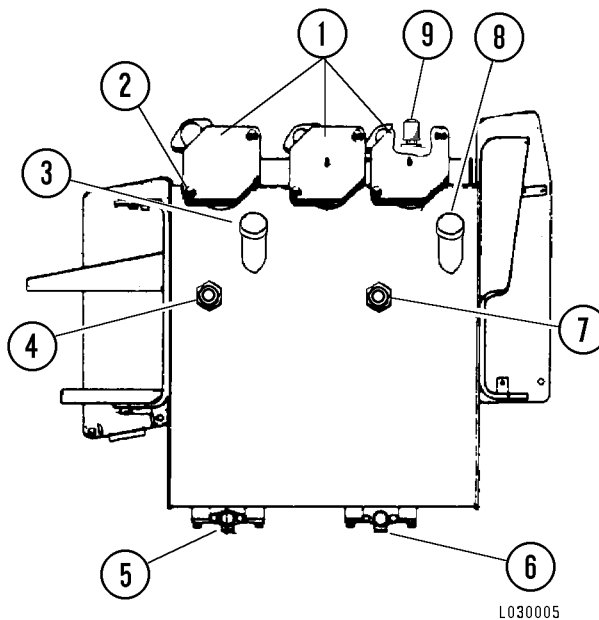

FIGURE 40-3. HYDRAULIC TANK
2. Turn the oil filler cap (3, Figure 40-3) slowly counterclockwise to release internal tank pressure.
2. Turn the oil filler cap (8, Figure 40-3) slowly counterclockwise to release internal tank pressure.
3. Fill tank with recommended oil until oil is visible in the sight glass (7). To reduce rear brake "squeal", use ONLY SHELL DONAX - TD Oil or BP TRACTRAN UTH. If these oils are not available, use Lube key "C".
2. Turn the oil filler caps (3 & 8, Figure 40-3) slowly counterclockwise to release internal tank pressure.
3. Remove bolts (2) on filter covers (1).
5. Thoroughly clean filter housings, covers (4) and bypass valve (3) components.
6. Install new elements. Install bypass valves and covers. Tighten bolts (2, Figure 40-3) to standard torque.
2. Clean dirt accumulation from area of breather (9, Figure 40-3).
5. Start engine and check for leaks before releasing truck for service. Check hydraulic tank oil level; oil must be visible in sight glass (4, Figure 40-3).